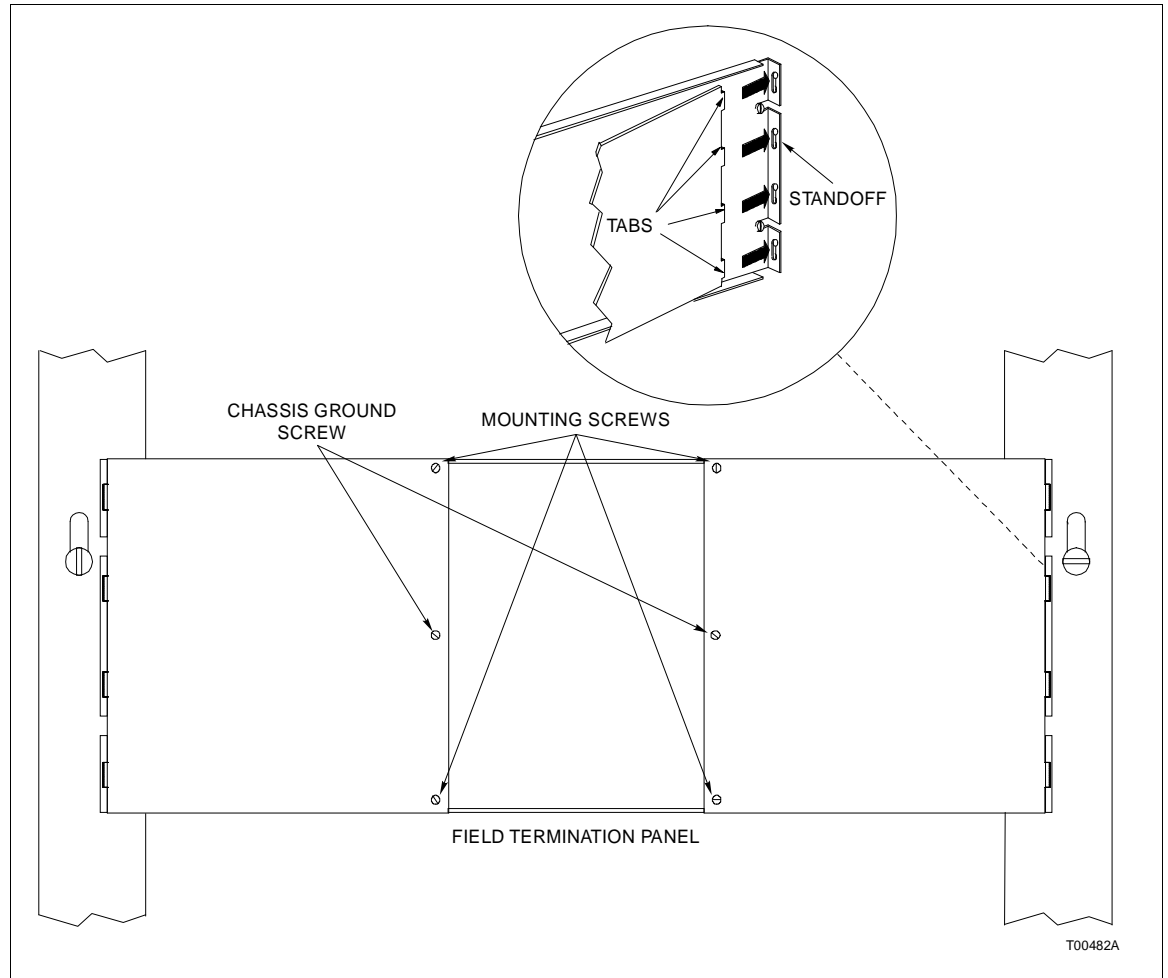

Figure 2-4. Termination Unit Mounting Diagram
1. Insert the tabs of the circuit board into the proper slots of the field termination panel standoff (see Figure 2-4) and slide the circuit board into position.